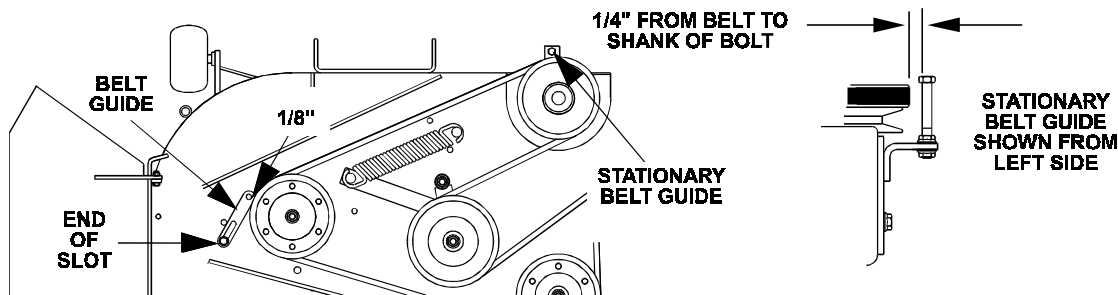

FIG. 10
- c) For 52" & 62" units only - note belt guide bolted to deck near the shield support stud and right-hand pulley. Guide should be 1/8" away from the belt, with bolt-end of guide at end of slot (See Fig 10).